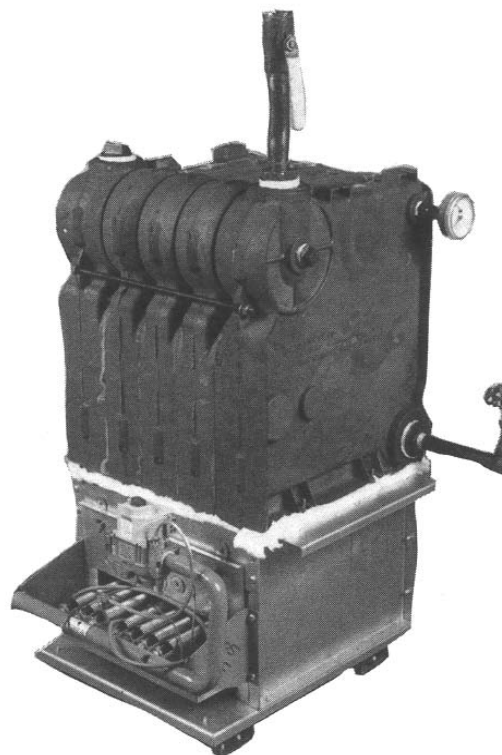

Figure 6: Hydrostatic Pressure Test
2. Attach fill valve and piping to return tapping and purge valve to supply tapping. See Figure 6.